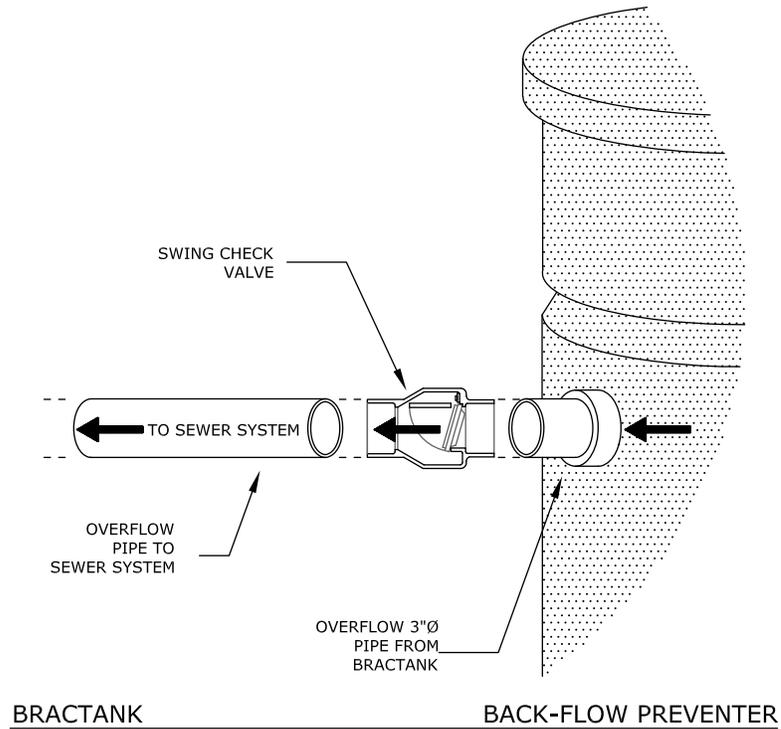

Figure 2
6. Install a backwater valve (such as a swing check valve) down stream of the overflow port, and connect the overflow pipe directly to the building drain. (See figure 2).